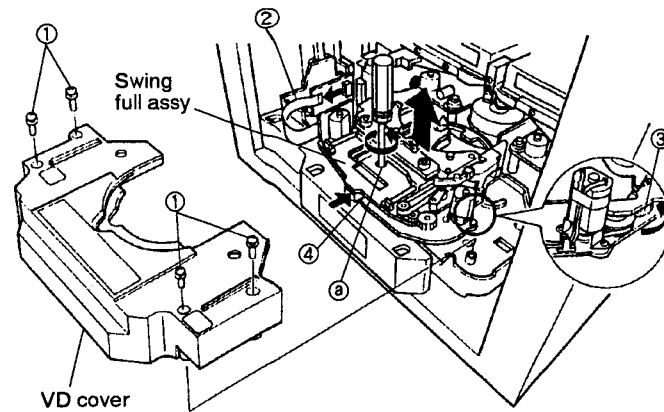

Fig.1 Disassembly the swing full assy
- Use nipper or other tool to cut the two sections marked \textcircled{A} figure 1. Then remove the spacer.
• DISASSEMBLY THE SWING FULL ASSY (Fig. 1)
2. Remove the four screws ① and detach the VD cover.
3. Pull out the flexible cord C ② from the connector.
4. Turn the CSL gear 2 ③ counterclockwise and slide the Chuck assy toward the front.
5. Loosen the screw in the hole ④ using a Phillips screwdriver.
6. Push the lock spring ④ toward the front.